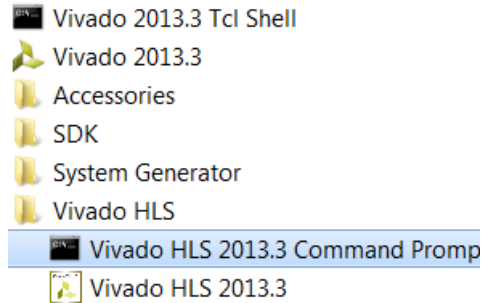

Figure 183: Vivado HLS Command Prompt
- a. On Windows use **Start > All Programs > Xilinx Design Tools > Vivado 2013.3 > Vivado HLS > Vivado HLS 2013.3 Command Prompt (Figure 183)**.